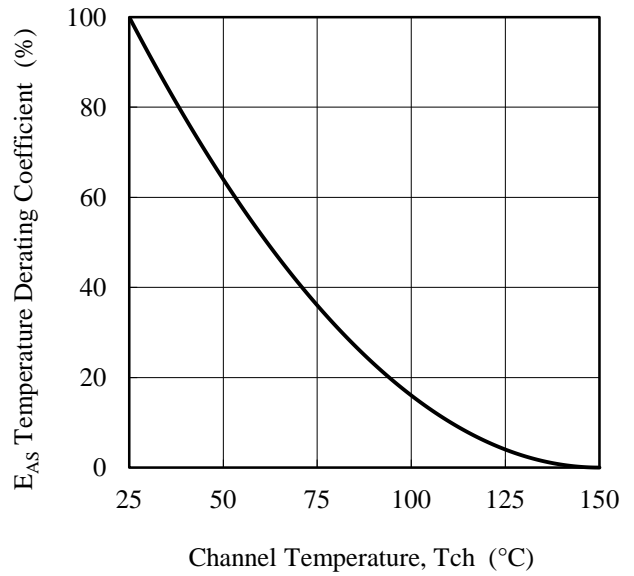

Figure 3-2. Avalanche Energy Derating Coefficient Curve
(2) Refer to Figure 3-2 Avalanche Energy Derating Coefficient Curve